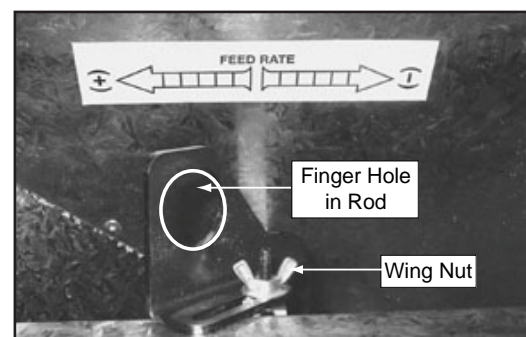

Figure 25.2
1. Loosen the wing nut. **Figure 25.2.**